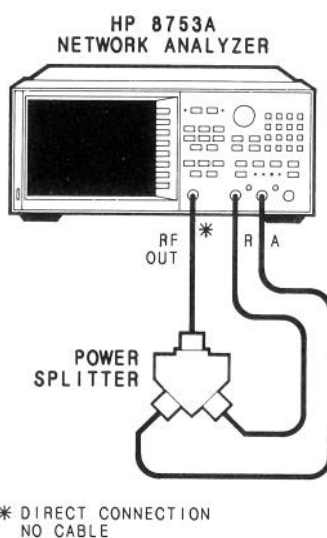

Figure 18. Sampler Diode Bias Measurement Setup.
2. Connect the equipment as shown in Figure 18.